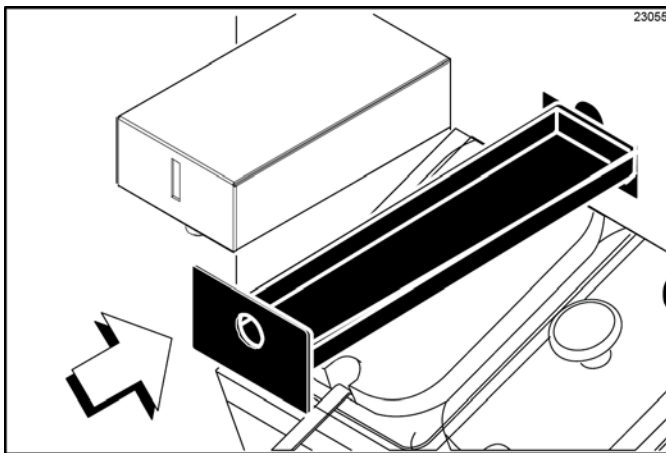

Figure 6-72
10. Remove, clean, and reinstall the long drip pan through the front panel. (See Figure 6-72.)